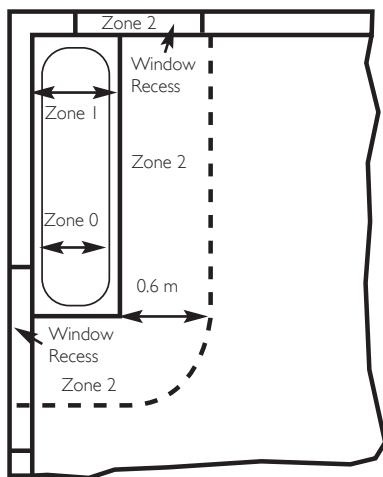

Fig. 11 In GB Only
1. If the boiler is fitted in a room containing a bath or shower and **NOT FITTED** with any optional integral timer or thermostat, it can be fitted in zone 2, (Figs. 11 & 12 shows zone dimensions for a bathtub. For other examples refer to the Current I.E.E. Wiring Regulations) reference must be made to the relevant requirements. In GB this is the current I.E.E. Wiring Regulations and Building Regulations. In IE reference should be made to the current edition of I.S. 813 "Domestic Gas Installations" and the current ETCL rules.